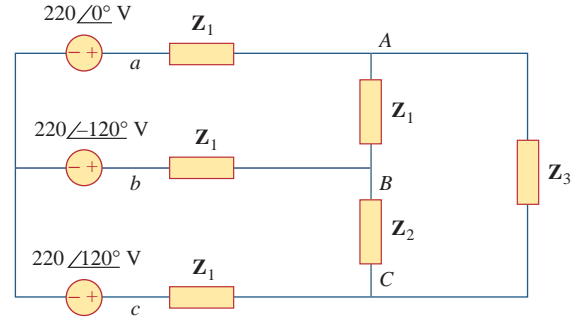

Figure 12.69
- 12.63** Use *PSpice* to find currents I_{aA} and I_{AC} in the unbalanced three-phase system shown in Fig. 12.69. Let